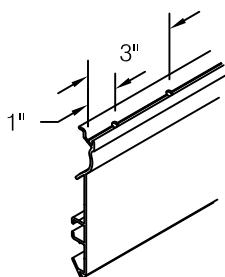

fig 4
- At 1" and 3" from end of retainer for wall return and outside corner tops, see **fig 4**.